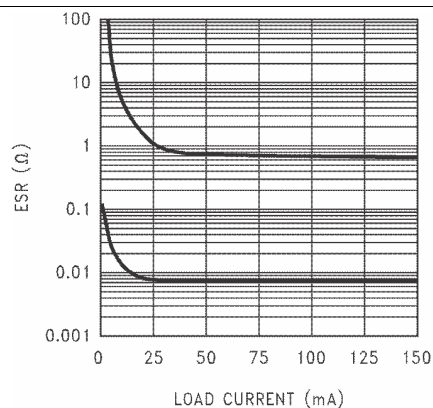

Figure 18. 2.2- μF Stable ESR Range for Output Voltage $\leq 2.3 V$
- ESR range: see Figure 18 through Figure 20